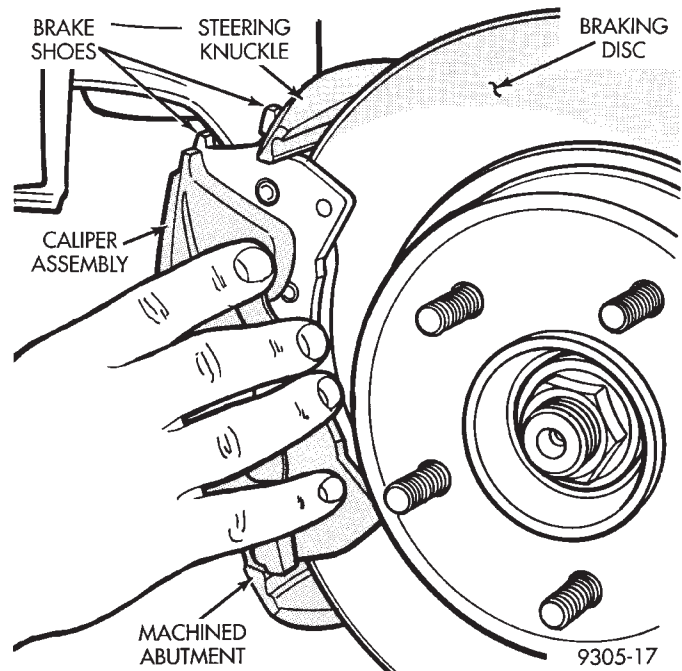

Fig. 51 Removing Caliper Assembly
(4) Remove caliper assembly from steering knuckle. Proceed by first rotating top of caliper away from steering knuckle and then lifting caliper off bottom machined abutment on steering knuckle (Fig. 51).